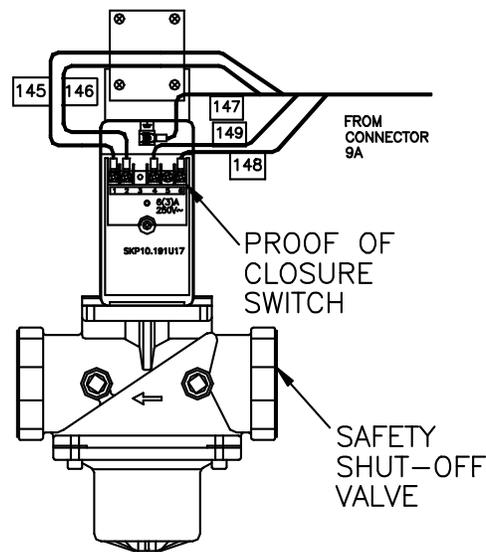

Figure 5-2: Proof of Closure Switch
2. The unit checks the proof of closure switch on the Safety Shut-Off Valve (SSOV) shown in Figure 5-2.